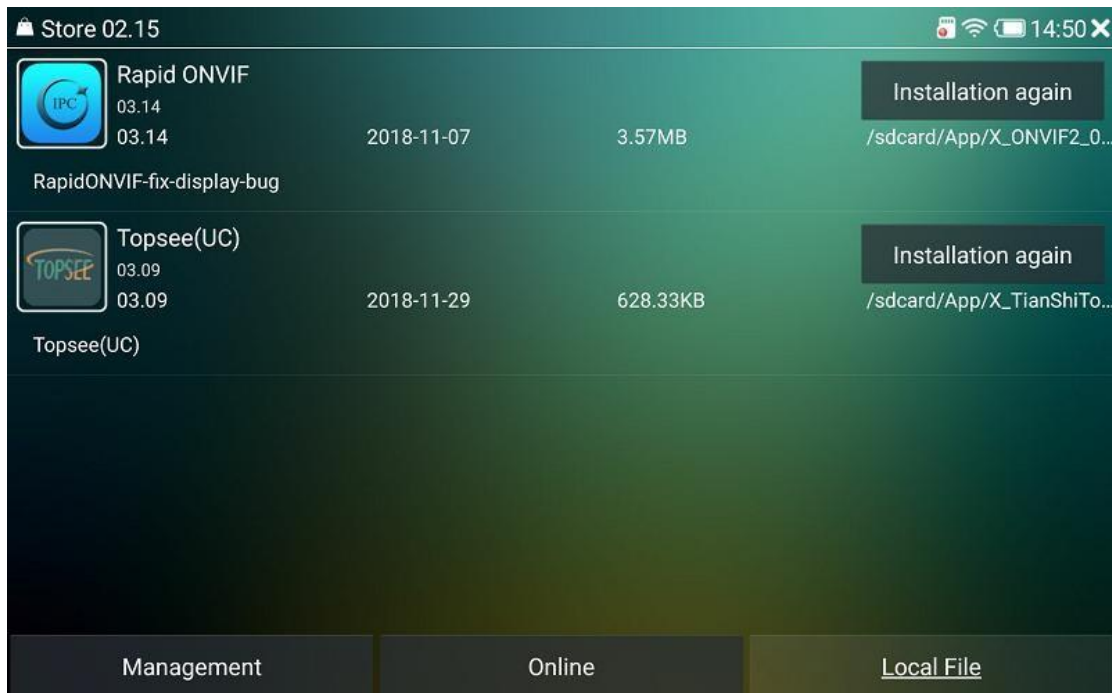

Figure 39
1) Browser function enables user to access the IPC camera directly through web page, touch the 'Browser' icon to enter browser function, input camera IP address directly in address bar to open the camera web page, as shown in Figure 39 (notice: all IPC testers in the market do not support installing plug-ins for browser).
3) Local installation, touch 'Local File', the instrument will scan internal storage, SD card and U disk to look for installable software packages, long press corresponding Apps to delete application file, as shown in Figure39